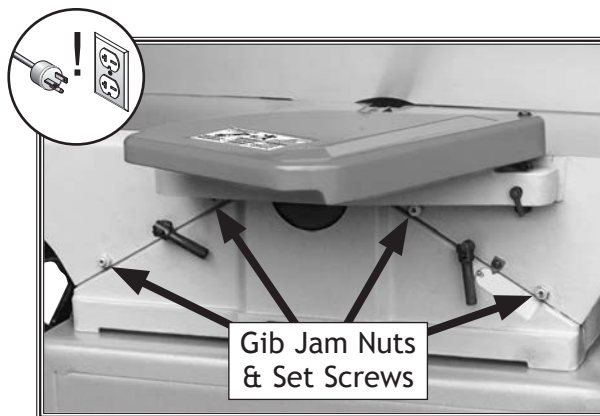

Figure 49. Infeed table gib controls.
1. Loosen (4) infeed table gib jam nuts on front of table/fence assembly (see **Figure 49**).